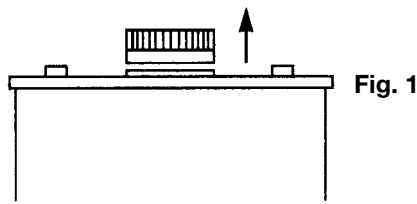

Fig. 2
4. Offer the flue damper assembly to the flue outlet keeping the drive unit in vertical alignment with the control thermostat. (See Fig. 2).
5. Using the damper assembly as a template, carefully drill 4 off 3mm holes through the pre-punched holes of the damper channel. Fix using the 4 self-tapping screws provided. For B148 (54/440) use bracket provided in damper kit. (See Fig. 2).
7. Connect flying leads together ensuring correct colour sequence is observed. (See Fig. 2).
9. Ensure that the flue damper drive unit switch is in the auto position. (See Fig. 2).